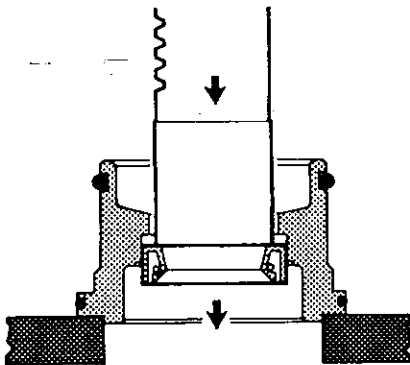

Figure 4.13
20. Support the bearing retainer and press out the drive shaft seal (11). See Figure 4.13.